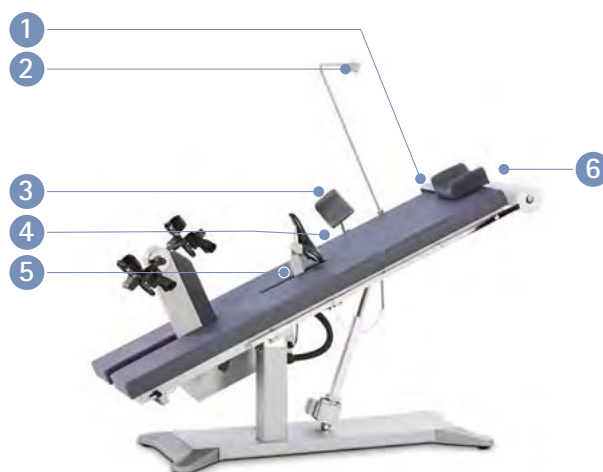

Figure 4–7: Mounting attachment parts
- Introduce the saddle post **5** in the saddle guide rail (see figure 4–9).